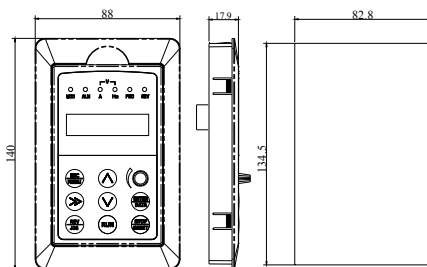

Fig.2-7 Hole size of keypad
1. EN-LCD2 long-distance keypad outer lead, do not support keypad holder installed, only keypad installed support, mounting size refer to Fig.2-7.